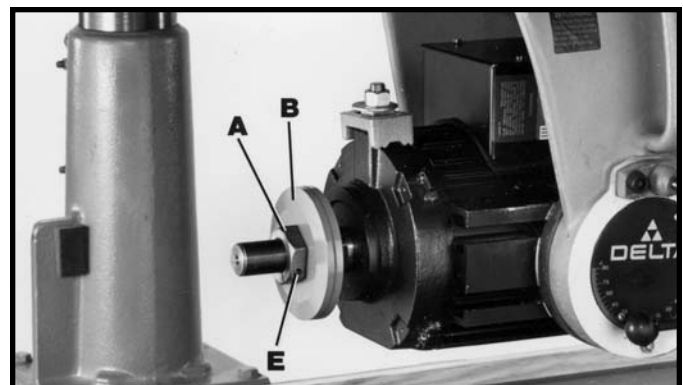

Fig. 22
1. Loosen set screw (E) Fig. 22. Remove arbor nut (A) and outer blade flange (B).